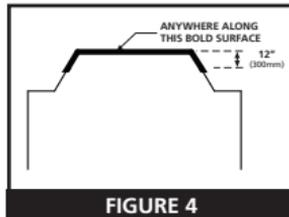

FIGURE 4
- Install Smoke Alarms on tray-shaped ceilings (coffered ceilings) on the highest portion of the ceiling or on the sloped portion of the ceiling within 12" (305mm) vertically down from the highest point (see figure 4).